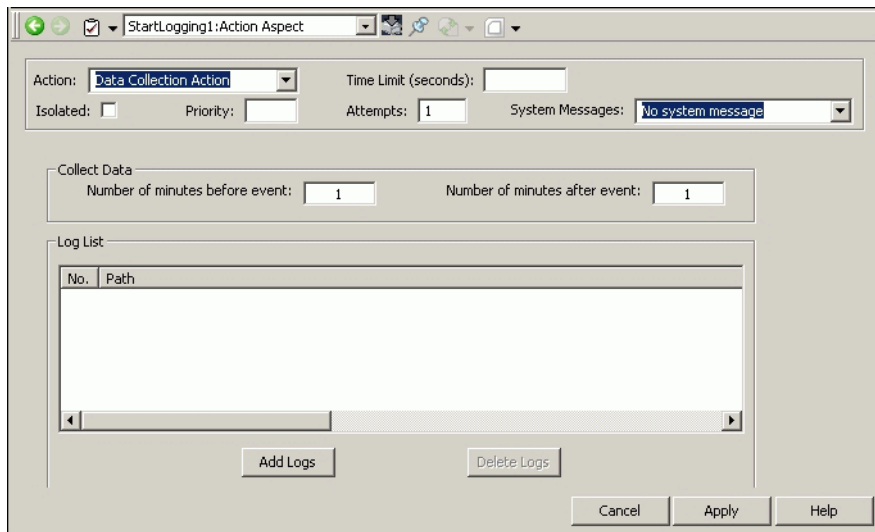

Figure 139. Plug-in for Event-driven Data Collection
5. Select **Data Collection Action** from the Action pull-down list. This displays the Data Collection plug-in, Figure 139.